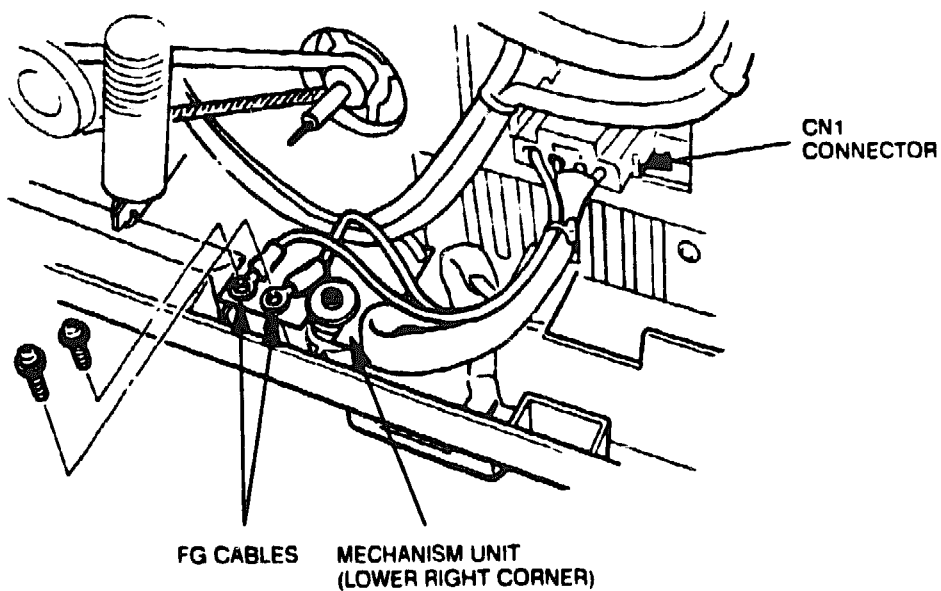

Figure 6-19 Power Switch Assembly Connector and FG Cables
2. Unplug connector CN1 from the power supply (see Figure 6-19).
3. Unscrew the two FG cables from the mechanism unit (see Figure 6-19).